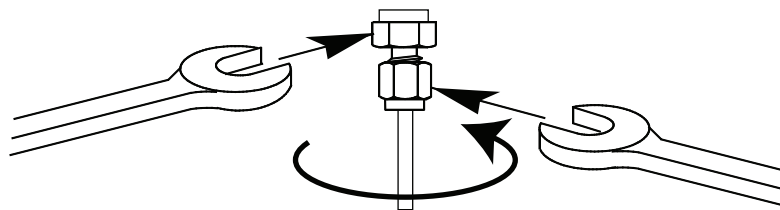

Figure 19. Final tightening
- 7 For 1/8-inch Swagelok fittings, use a pair of wrenches to tighten the fitting 3/4 of a turn. See Figure 19.